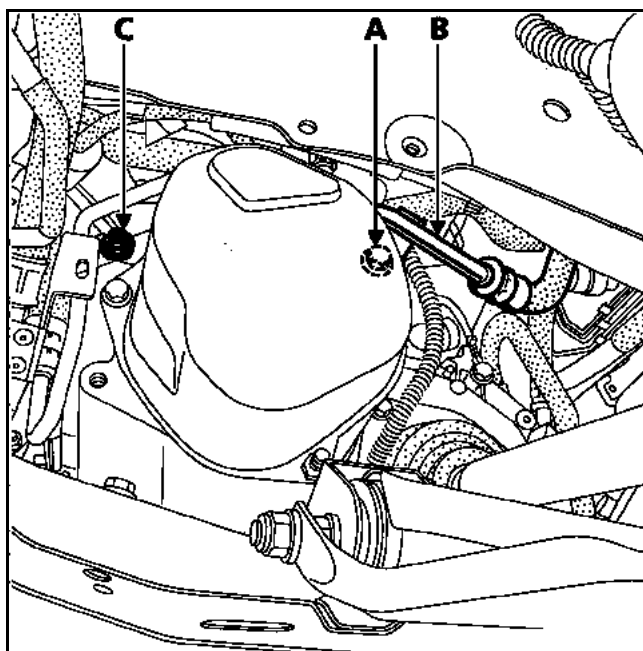

Fig. 1
- stud **part no.: 77 03 027 328** instead of the upper bolt (A) (**Fig. 1**) on the 5th gear gearbox housing.
- Fit high pressure pipe (B) (**Fig. 1**) by attaching it to the stud (A) (**Fig. 1**) using nut **part no.: 77 03 033 025**, and using the bolt (C) (**Fig. 1**) **part no.: 77 03 002 072**.